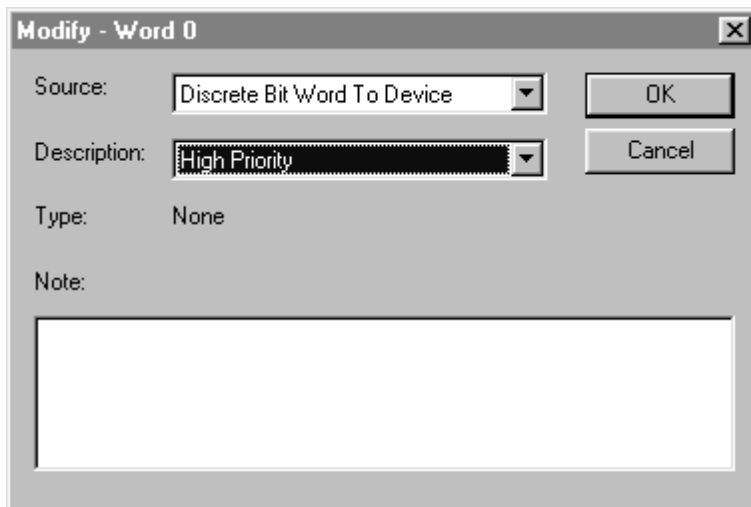

Figure 3.12
**Note:** Because the user made the selections shown on Figure 3.12 screen, one of the high priority words is used up. This means that there are 5 words remaining that can be assigned as high priority. (In Directed Data, there are 16 total words. Global Data has 32 possible words.)